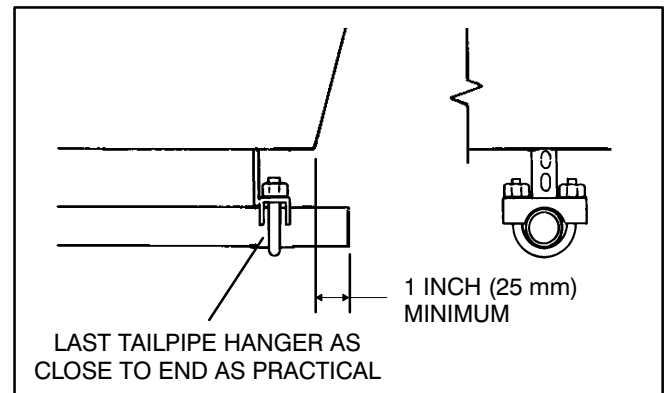

FIGURE 7. TERMINATING THE TAILPIPE
6. Do not terminate the tailpipe underneath the vehicle. Extend it a minimum of 1 inch (25 mm) beyond the perimeter of the vehicle (Figure 7). Support the end of the tail pipe such that it cannot be pushed in and up under the skirt of the vehicle.